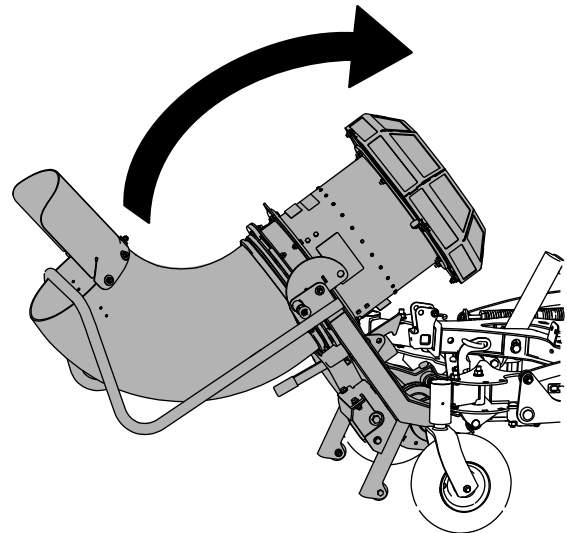
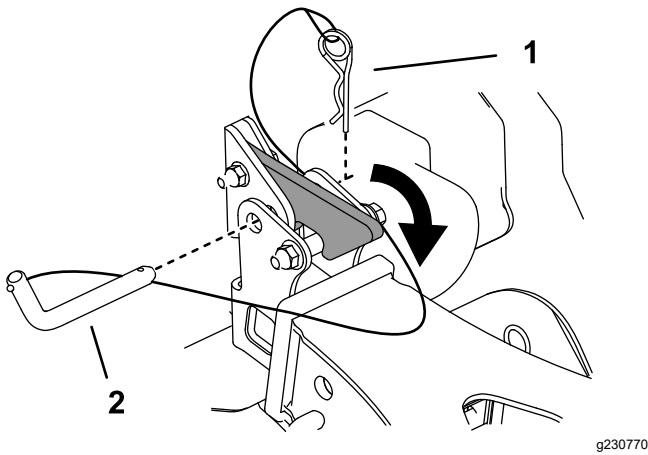

Figure 28
Figure 29
1. Raise the blower so that it latches on the hitch receiver (Figure 28 and Figure 29).
2. Secure the assembly to the hitch receiver using the hitch pin and hairpin cotter attached to the receiver (Figure 29).